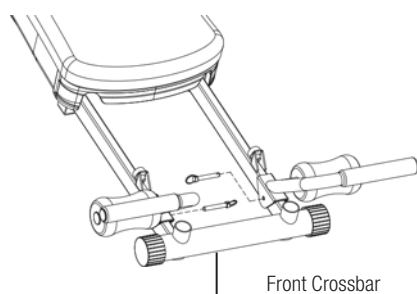

FIGURE 4
3. Insert the 2 Short Hitch Pins through the holes on the Wing Attachment Brackets and the hole on the Rails, as shown in Figure 4.